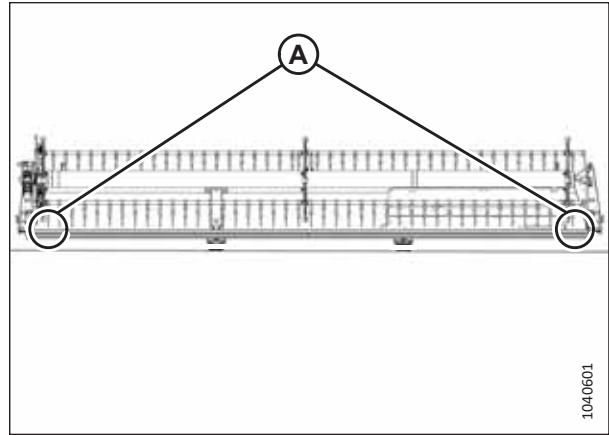

Figure 4.274: Single-Reel Measurement Locations
- Figure 4.274, page 380 – single reel